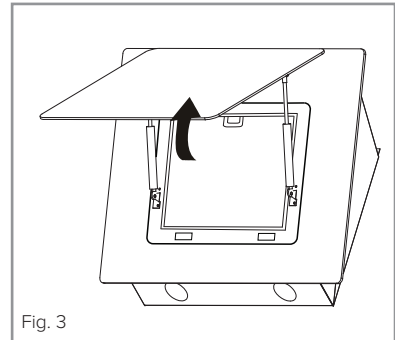

Fig. 3
- Open the hinged panel as shown in Fig. 3.